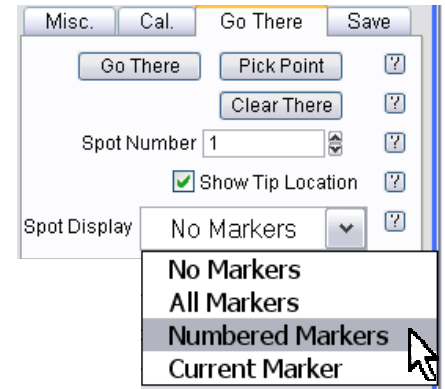

Figure 11.2.4.1: The *Go There* subtab for Point and Click force curve acquisition.
- ✓ In the 'Spot Display' pull-down menu, select 'Numbered Markers'(Figure 11.2.4.1).- this will correlate the 'Spot Number' with the defined cursor(s) on the image area (Figure 11.2.4.2B).
- ✓ Click the 'Pick Point' button; this will bring a ⊕ cursor (on all the open image channels) usually designated as '0', and will be in the center of the image (Figure 11.2.4.2A).
- ✓ Click on the 'That's It!' button; which locks the point at that spot, meanwhile the Spot number index is advanced by one in anticipation of the next point location being chosen. Notice the user defined location/spot is marked on the image with an 'X' and also labeled with the spot number (Figure 11.2.4.2B).
- ✓ Click the 'Go There' button. Notice the red dot designating the tip position will move to that point (Figure 11.2.4.2B), generally at a rate the scan rate is set to in the *Main* tab of the Master Panel.
▪ Figure 11.2.4.2 shows an example of designating some user defined points on a DualAC™ second amplitude image of some water based paint (see Dual AC Section 6.1.5). In A), the ⊕ cursor was moved from image center to designate first defined location (as seen in Figure 11.2.4.2B); In B) three different points are selected at different contrasted image locations- Notice tip is at point three because of red dot marker.
Figure 11.2.4.2: Designating 'Point and Click' force curve locations on a previously acquired image; A) drag the ⊕ cursor from image center to desired location; B) many locations selected; tip located at position 3, indicated by red dot (•). Data shown is a DualAC™ amplitude2 image of water based latex paint in air.